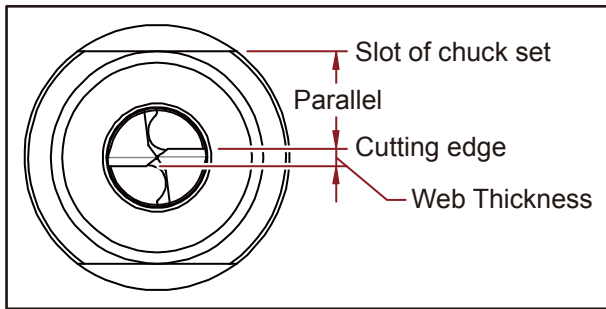
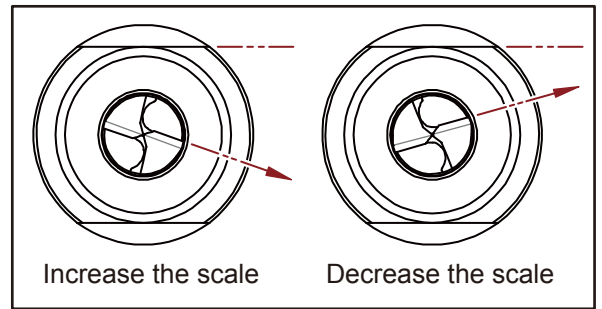

Fig. 7-3
Fig. 7-4
※ After taking the Chuck set out, make sure the cutting edge of the drill is parallel with the slot of Chuck set (Fig. 7-3), if it is not parallel, please re-adjust it. (Fig. 7-4)
- ✘ Always keep the parallelism before starting the grinding procedure. (Fig. 7-3)